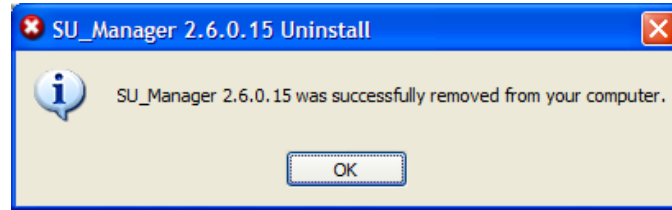

Figure 2-39: Software Successfully Removed Message
10. A message displays verifying that the software was successfully removed, as shown in Figure 2-39. Click **OK**.